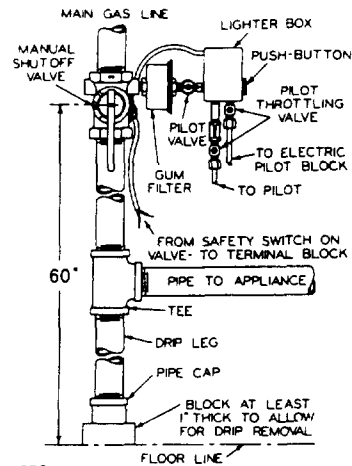

FIG. 14—Supply Piping Electric Ignition
1. Connect pilot lines from manual shutoff valve, shown in supply piping arrangement, Fig. 14, to unions in line to pilot burner and electric ignition block on burner No. 2. Auxiliary pilot burners should be connected to pilot burner line with $\frac{1}{8}$ brass tee or elbow. See Fig. 12.